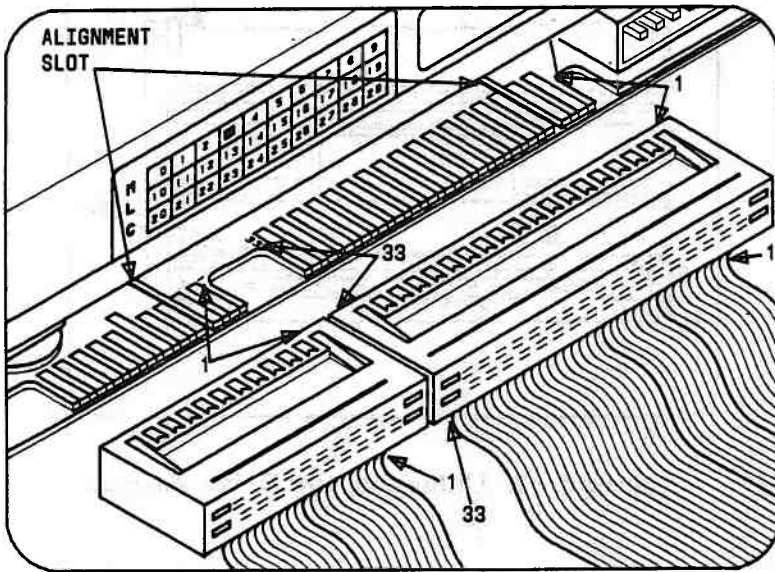

Figure 5-68. Slim HDU Cable Connections
- Carefully remove the ribbon cables, power cables, and the ground connector from the rear of the drives (Figure 5-68).